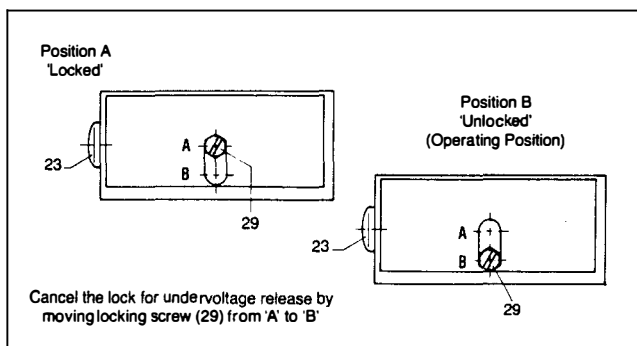

Figure 17c Undervoltage Blocking Feature
Since the striker pin of the undervoltage release is latched only when the armature is attracted, this trip is fitted with a screw, (29) (Fig. 17c), for locking the striker pin, (23), in the normal position for adjusting purposes or for carrying out trial operations during breaker servicing.